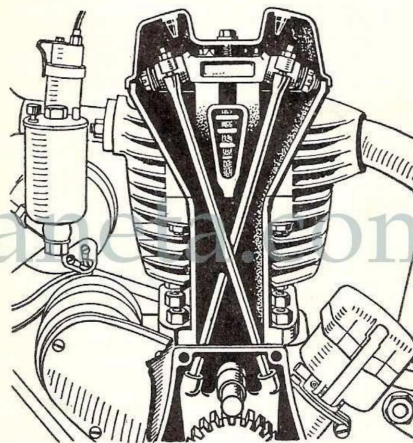

Fig. 24.
8. *The push rods (C11).* Before the head is bolted down, the push rods should be inserted down their appropriate apertures. It should be noted that the rods are crossed and that the exhaust rod must be fitted first, the plain end fitting into the cup formed on the rocker in the timing case, and the cupped end fitting over the rocker ball end (Fig. 24), shows a section illustrating how the push rods are fitted.